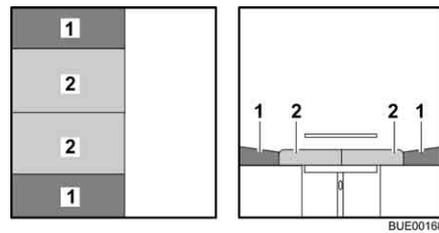

Fig. 87 After conversion
- Pull the seat cushions (Fig. 87,2) into the centre.
- Insert the back cushions (Fig. 87,1) between the seat cushions and the wall.